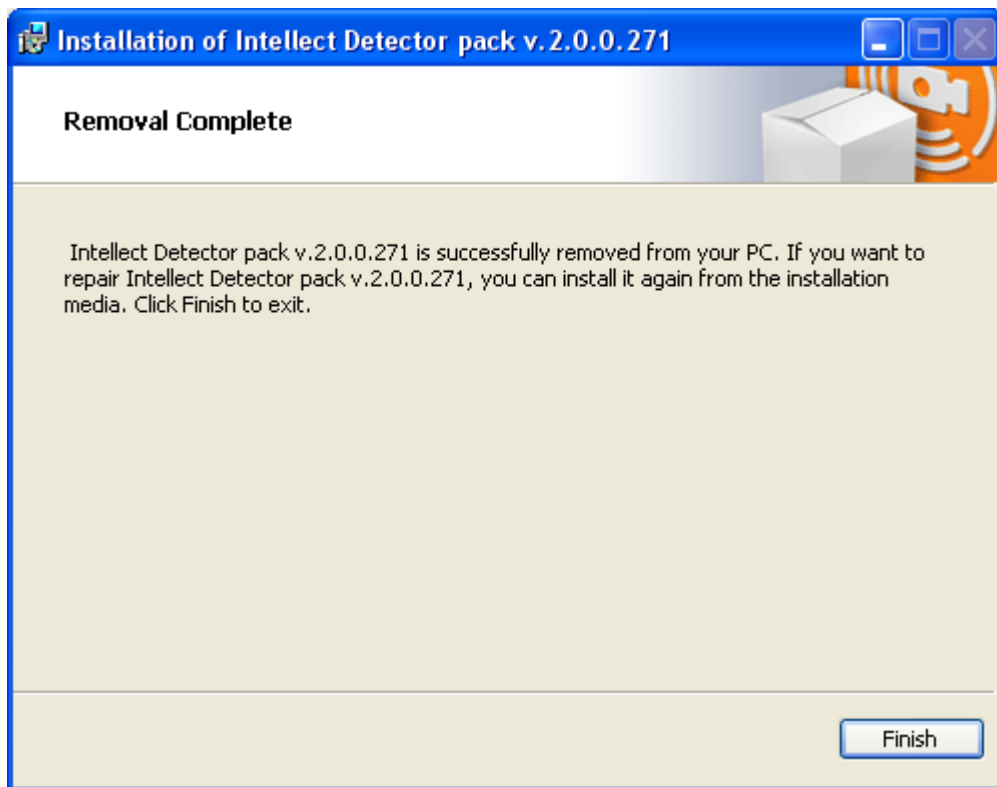

Fig. 5.2—15 Intellect Detector pack removal complete window
5. Click **Finish** (Fig. 5.2—15).